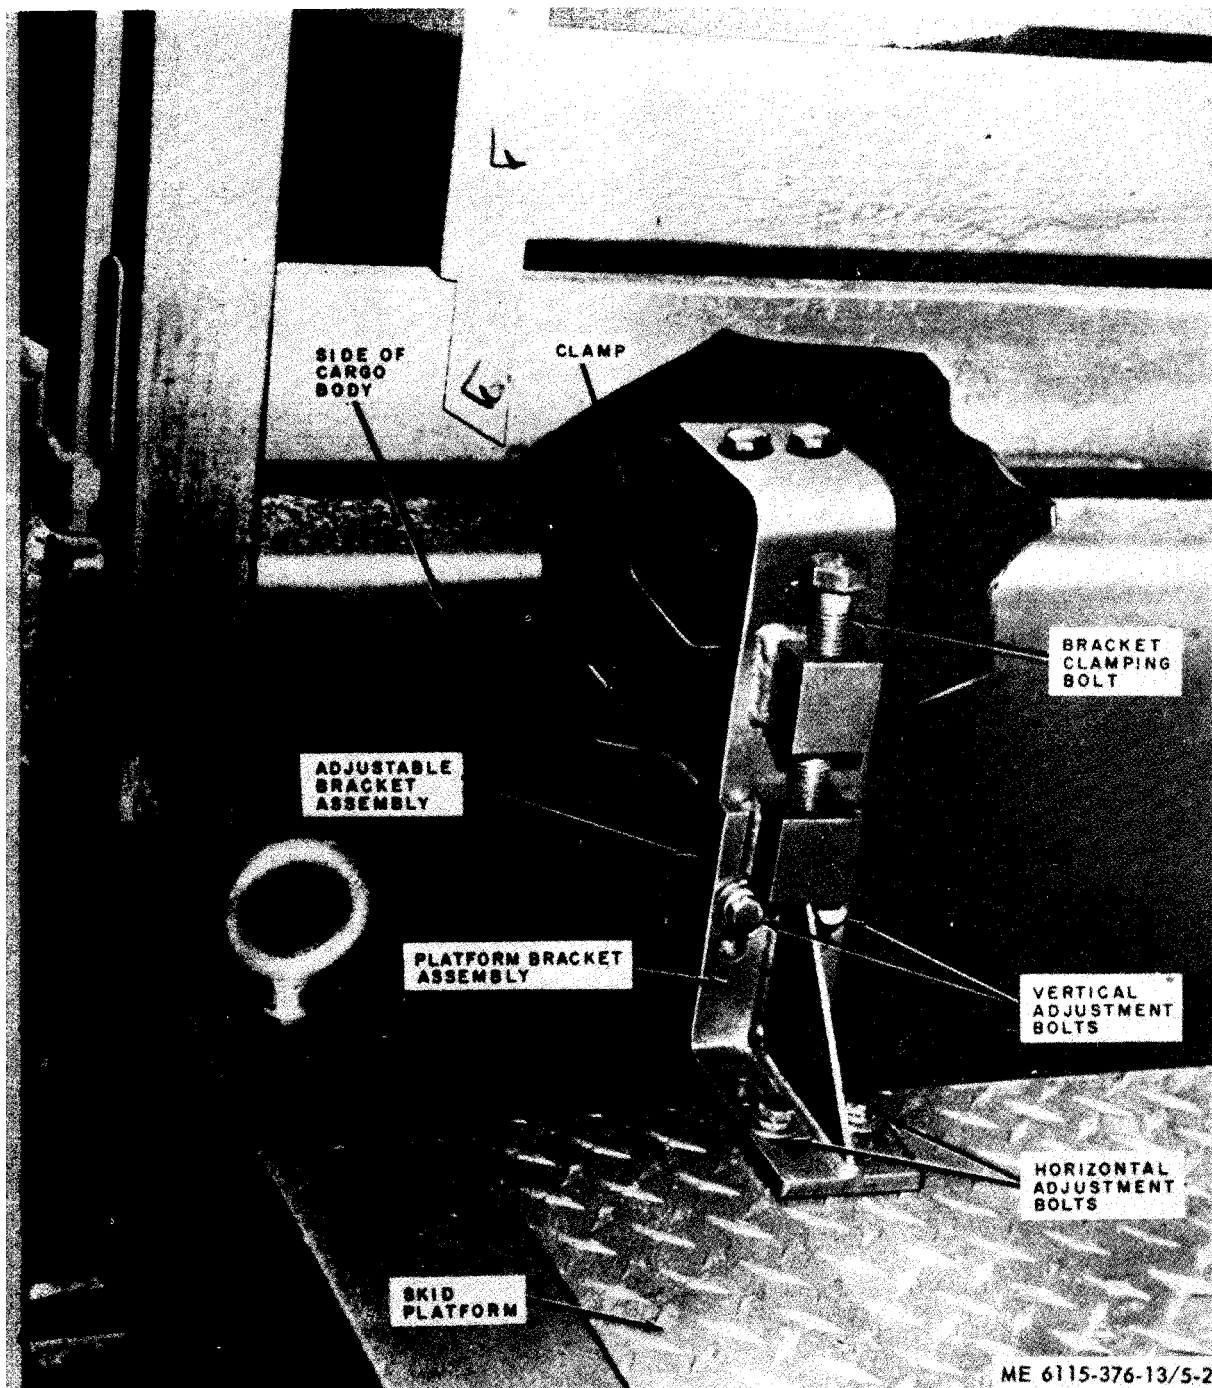

Figure 5-2. Skid platform holddown assembly.
*b. Removal.* Release each skid platform hold-down assembly (fig. 5-2), and attach sling assembly to lifting eyes (fig. 5-3) as follows:
(1) Loosen bracket clamping bolt until free of platform bracket assembly.
(2) Remove vertical adjustment bolts.
(3) Slide adjustable bracket assembly and clamp to one side of platform bracket assembly.
(4) Loosen horizontal adjustment bolts and slide platform bracket assembly away from side of cargo body.